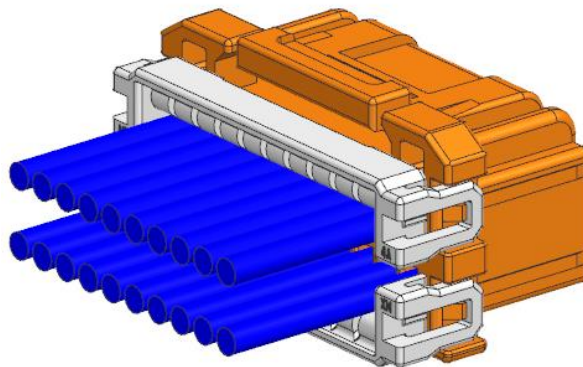

Fig.6-7 Inserted fully
- ③ Align the retainer lock with the guide ribs on the housing and place the retainer slowly and straight until the claws are fully applied. (**Fig. 6-7, 6-8**)